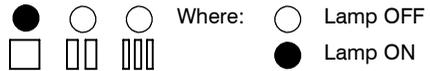

Fig. 7.7
- 6 The lamps 9 should give the indication as in Fig. 7.7.